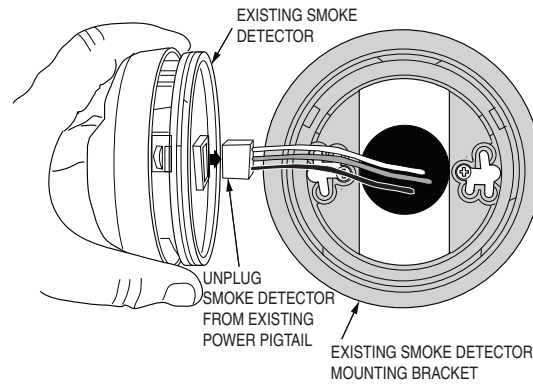
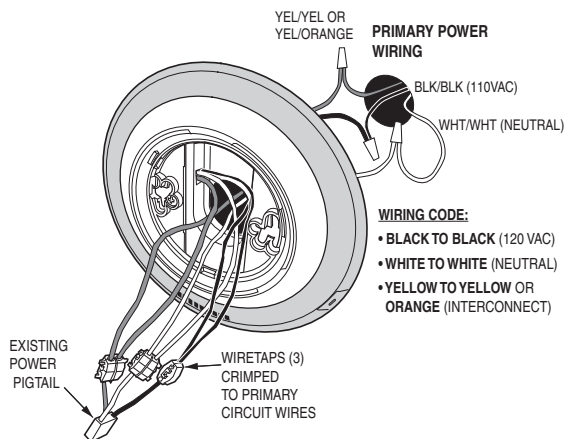

Figure 3. Unplug Pigtail of Existing Smoke Detector
Figure 8. Wiretap Connections
Before connecting the wires from the smoke detector sensor, identify the (+) line (hot) 120VAC wire and the neutral wire. Usually the (+) line (hot) 120VAC wire will be **black** and the **neutral** wire white. Use a voltmeter or voltage sensor to verify that the proper wires are selected. You may need to reconnect power to the electrical circuit powering the interconnected hardwired smoke detectors in order to do this (Figure 8).
Use an electrician's linesman plier or equivalent tool (See Figure 8) and using the installed wiretaps on the device, crimp the wiretap with the black wire onto the 120VAC line (hot) wire.
Once all (3) three wiretaps have been installed (Figure 8), reattach the electrical wire pigtail to the back of the smoke detector unit and mount the smoke detector on the mounting base (Refer to Figure 3).